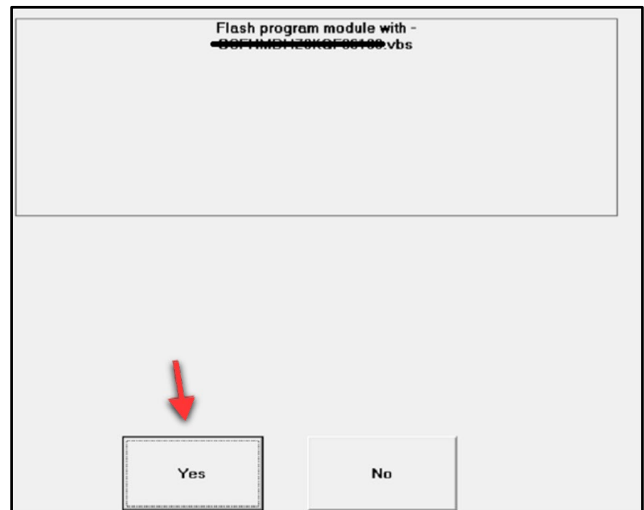

Figure 8
13. In the final pop-up window click “Yes” (refer to Figure 8). The Car Config file will be updated.